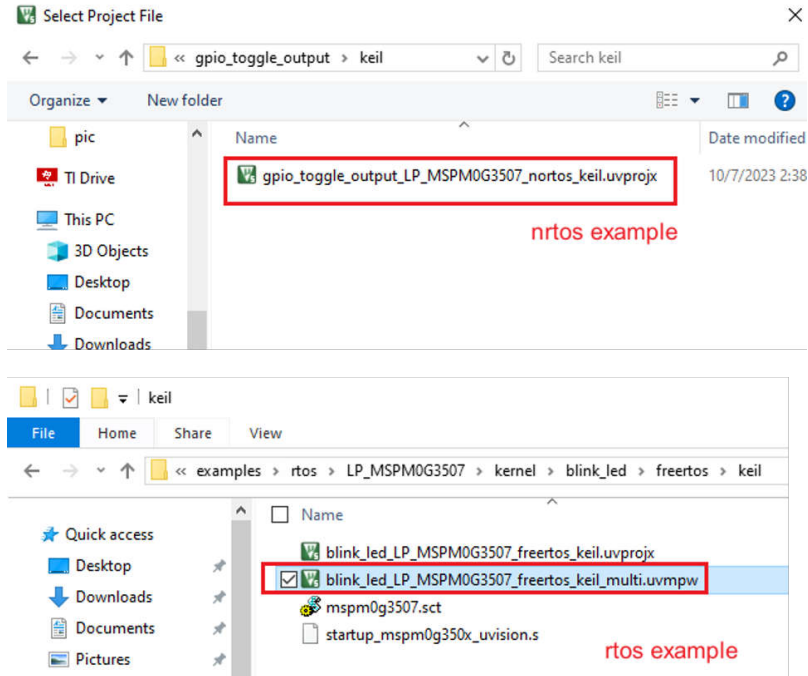

Figure 3-48. Select Keil Project
2. Select a demo project from SDK. For the nortos example, use the .uvprojx project file. For the RTOS example, use .the uvmpw work space file. An example is shown in Figure 3-48.